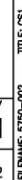

Figure 16: Field Wiring the VST Control Panel, Option 1
- See Figures: 16 & 17 for Option 1, and 18 & 19 for Option 2
- **See Figures: 16 & 17 for Option 1, and 18 & 19 for Option 2**